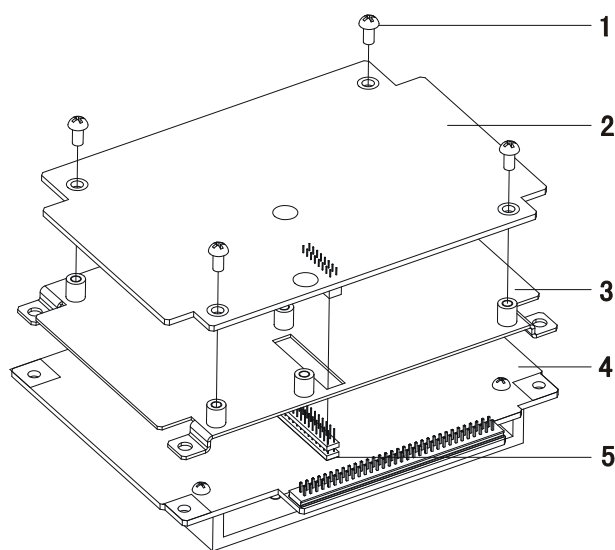

Figure 4-18 Disassembling Main Power Board, Separating Board and Auxiliary Board
3) As shown in Figure 4-18, remove four screws, pull out the connectors between the main power board and auxiliary power board, and separate the main power board and auxiliary power board.